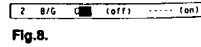

Fig. 8.
- 4 Select if necessary the TV broadcast system (B/G for western European countries, D/K for eastern European countries) or a video input source (EXT) with  $\Delta$ + or  $\nabla$ -. Then press OK. The CH position will be highlighted. (See Fig. 8.)